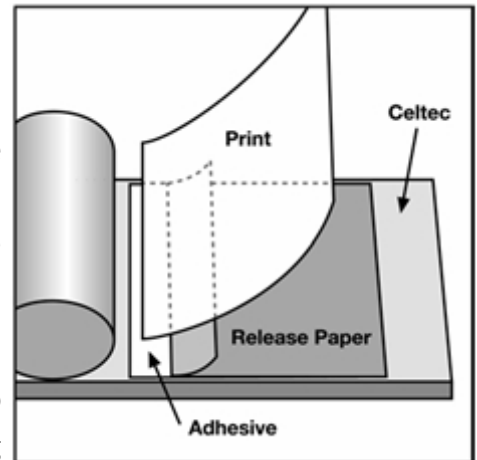

Figure 5e
3. Carefully position the print on top of the substrate, using the folded release paper to prevent contact with the exposed adhesive (Figure 5e). Once positioned correctly, carefully apply the print to the exposed adhesive, pressing from the center toward the edges to ensure a smooth tack.